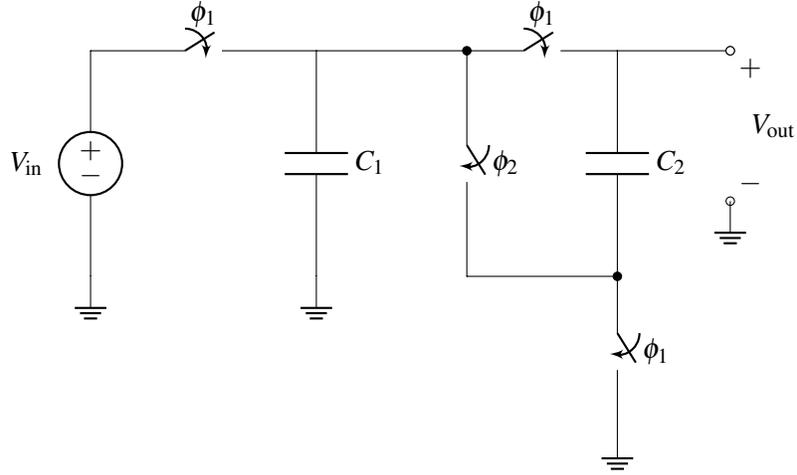

Figure 7: Switch capacitor voltage boosting circuit.
- (d) (8 points) Even after amplification, certain peaks of your ECG signal are too low to be discerned. You want to sample them and amplify them a bit more. To this end, you use the circuit in Figure 7. The circuit cycles through two phases: in phase 1, switches labeled ϕ_1 are ON and ϕ_2 are OFF, while in phase 2, switches labeled ϕ_2 are ON and ϕ_1 are OFF. **Calculate the output voltage, V_{out} , during phase 2, after steady state has been reached, in terms of C_1 , C_2 and V_{in} .** Clearly show your work.